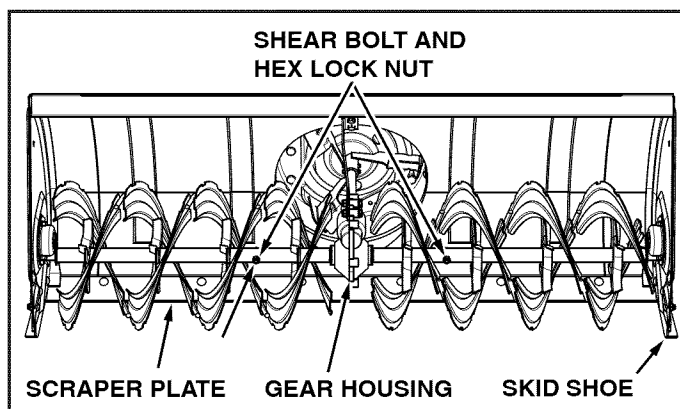

FIGURE 34
- If the augers will not turn, check to see if the shear bolts have sheared. See figure 34. Two replacement shear bolts and nylock nuts have been provided with the snow thrower. For future use order part number 42849 shear bolt and number 47810 nylock nut.